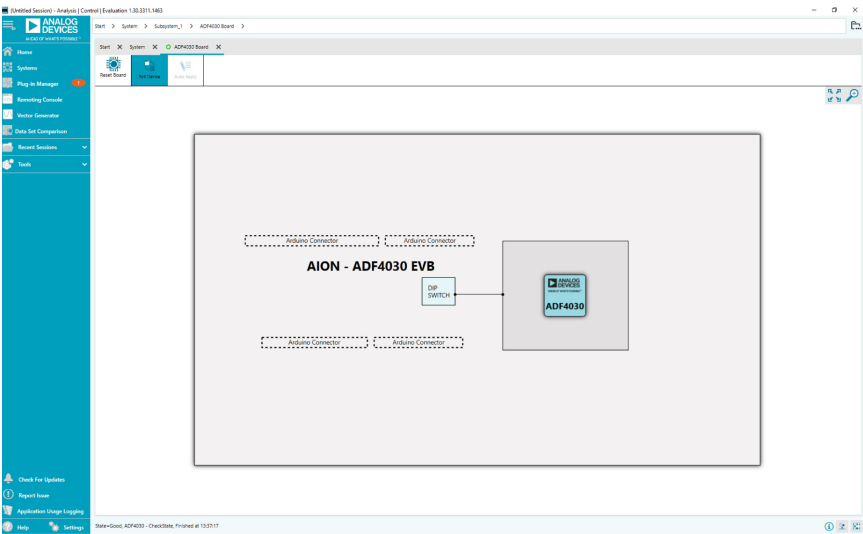

Figure 9. ACE Board Page, Device Selection
8. Double click **ADF4030 Board**, and the window shown in Figure 9 appears.